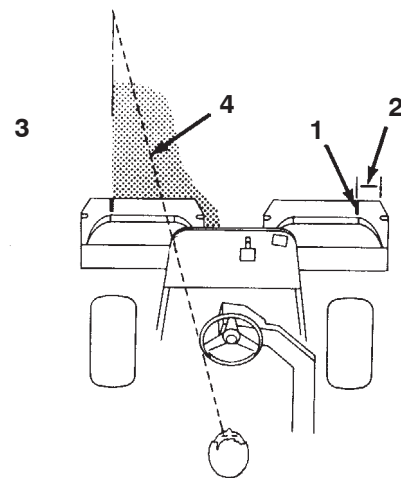

Figure 39
3. Overlap a minimal amount with the previous cut on return passes. To assist in maintaining a straight line across the green and to keep the machine an equal distance from the edge of the previous cut, establish an imaginary sight line approximately 6 to 10 ft. (1.8 to 3 m) ahead of the machine to the edge of the uncut portion of the green (Fig. 39). Some find it useful to include the outer edge of the steering wheel as part of the sight line; i.e. keep the steering wheel edge aligned with a point that is always kept the same distance away from the front of the machine.